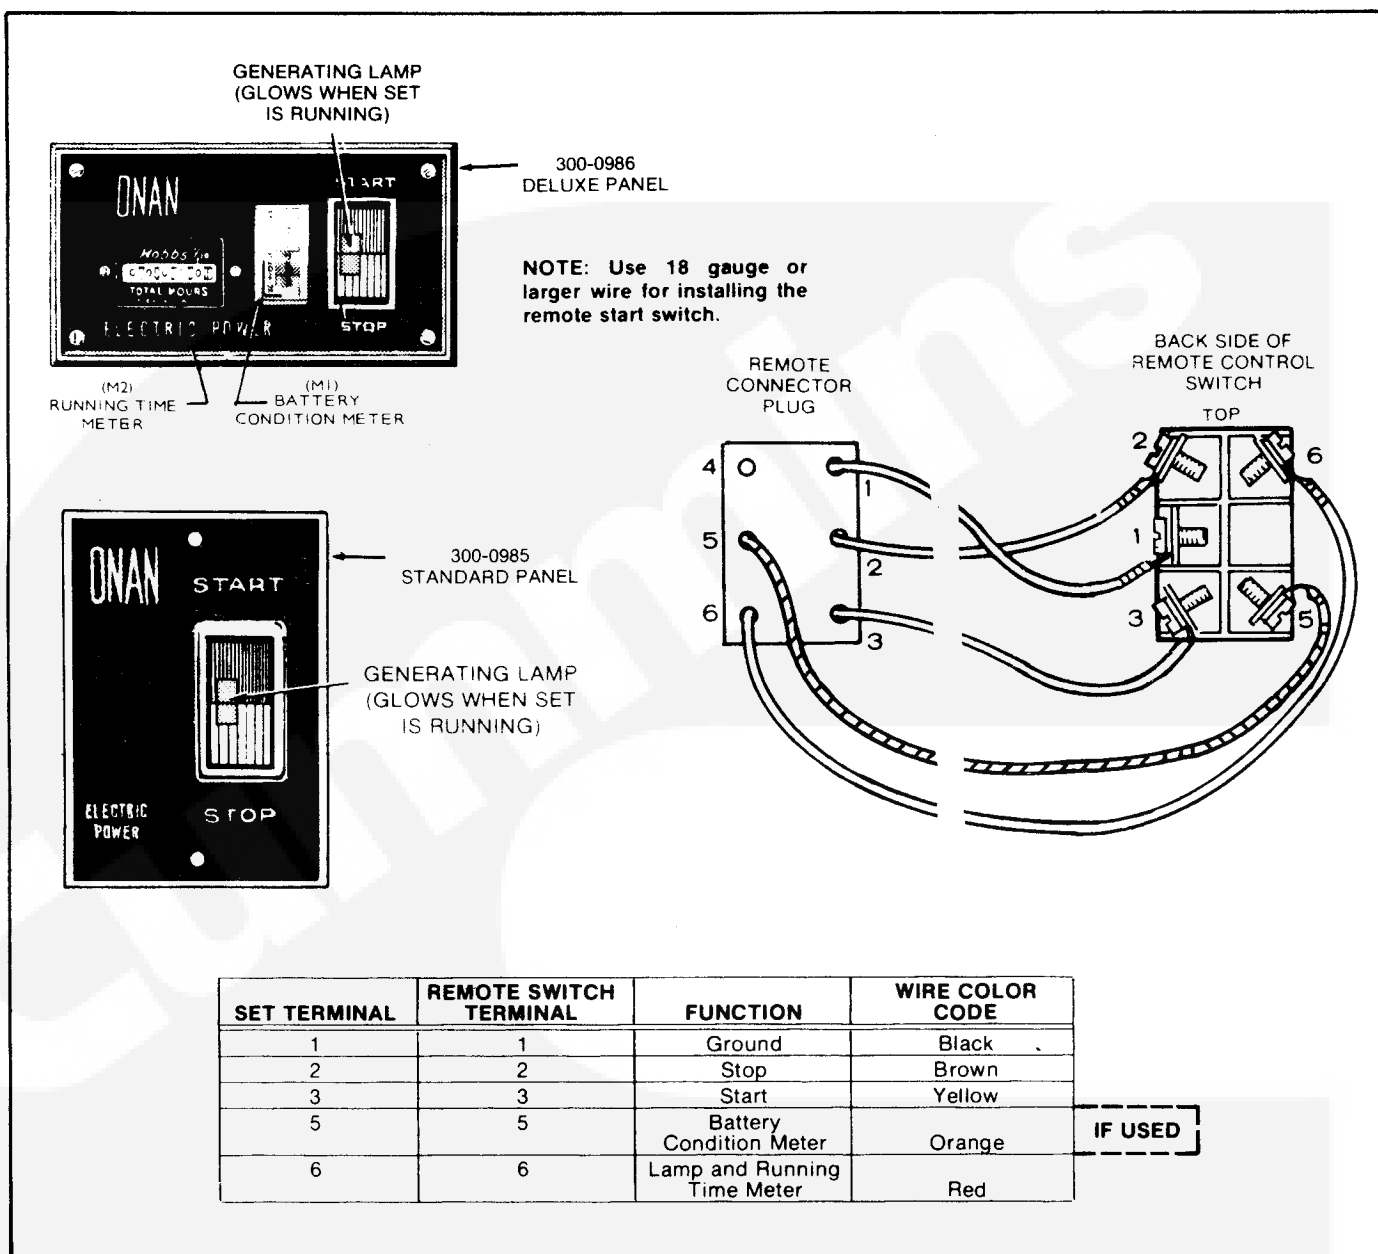

FIGURE 18. WIRING CONNECTIONS FOR 300-0985 AND 300-0986 REMOTE CONTROLS
2. Following national and local electrical codes and using #18 or larger insulated wires of predetermined length, connect remote control to generator set. Ensure that leads from remote control connect to corresponding terminals on generator set. Refer to Figure 18 for wiring connections.